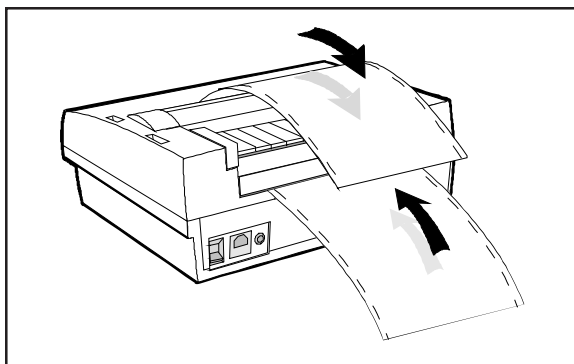

Figure 3-10. Checking the Exit Path
9. Press the Form Feed button on the control panel. The printer advances the paper to the first printable line. After printing begins, make sure the paper exits the printer over the paper support, as shown in figure 3-10.